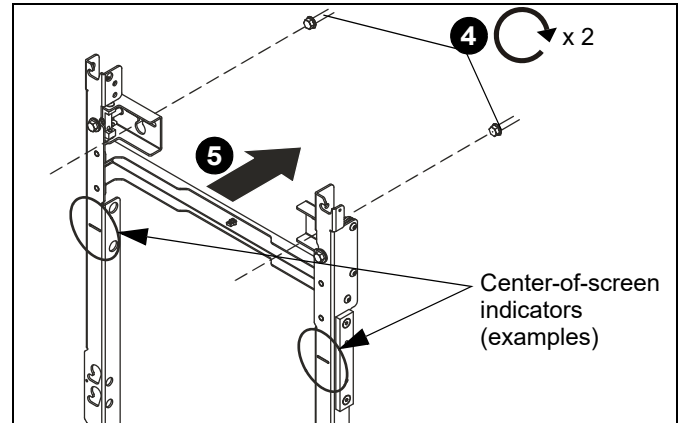

Figure 5
4. Partially install two fasteners into wall, but do NOT completely tighten to wall. (See Figure 5)
5. Hang wall mount, aligning upper teardrop slots over fasteners, and adjust side-to-side for proper location. (See Figure 5)
NOTE: The horizontal slots located along the vertical mount pieces are the center-of-screen indicators to illustrate where the center of each LED screen will be located. (See Figure 5)